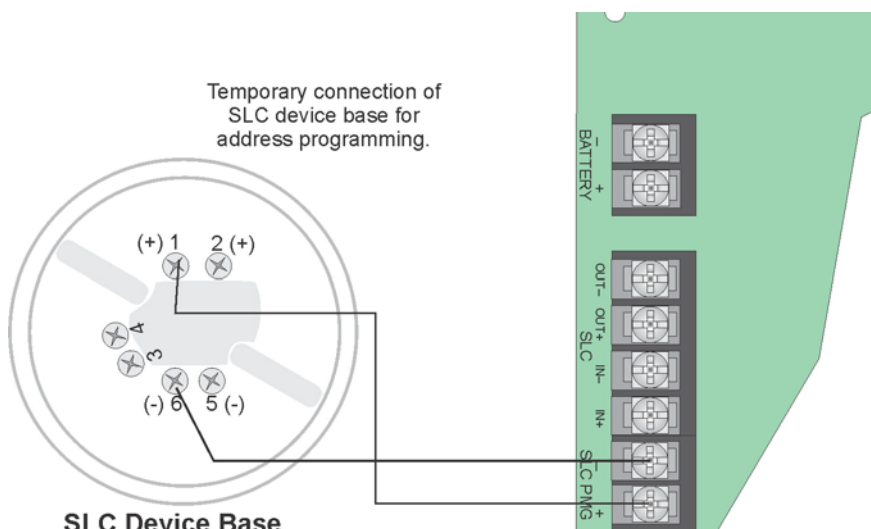

Figure 7.7 Temporary Connection of Detector Base to Panel for Addressing
- Connect a detector base temporarily to the programming terminals as shown in Figure 7.7. (You can use the same base for each detector).